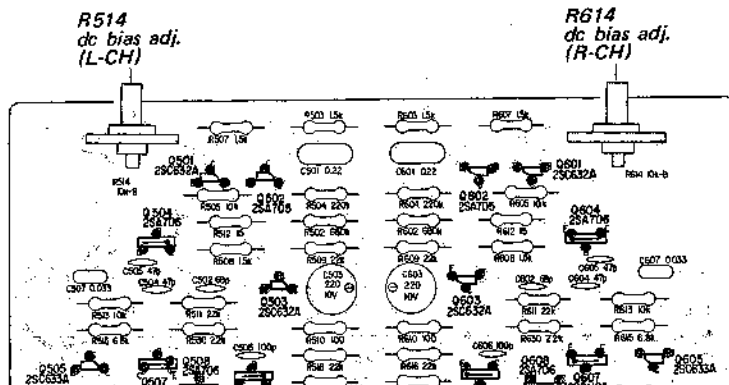

Fig. 3-2. Parts location
1. Apply a drop of cement solvent to the semi-fixed resistors on the power amplifier board, and then set the semi-fixed resistors (See Fig. 3-2) on the power amplifier board as follows: